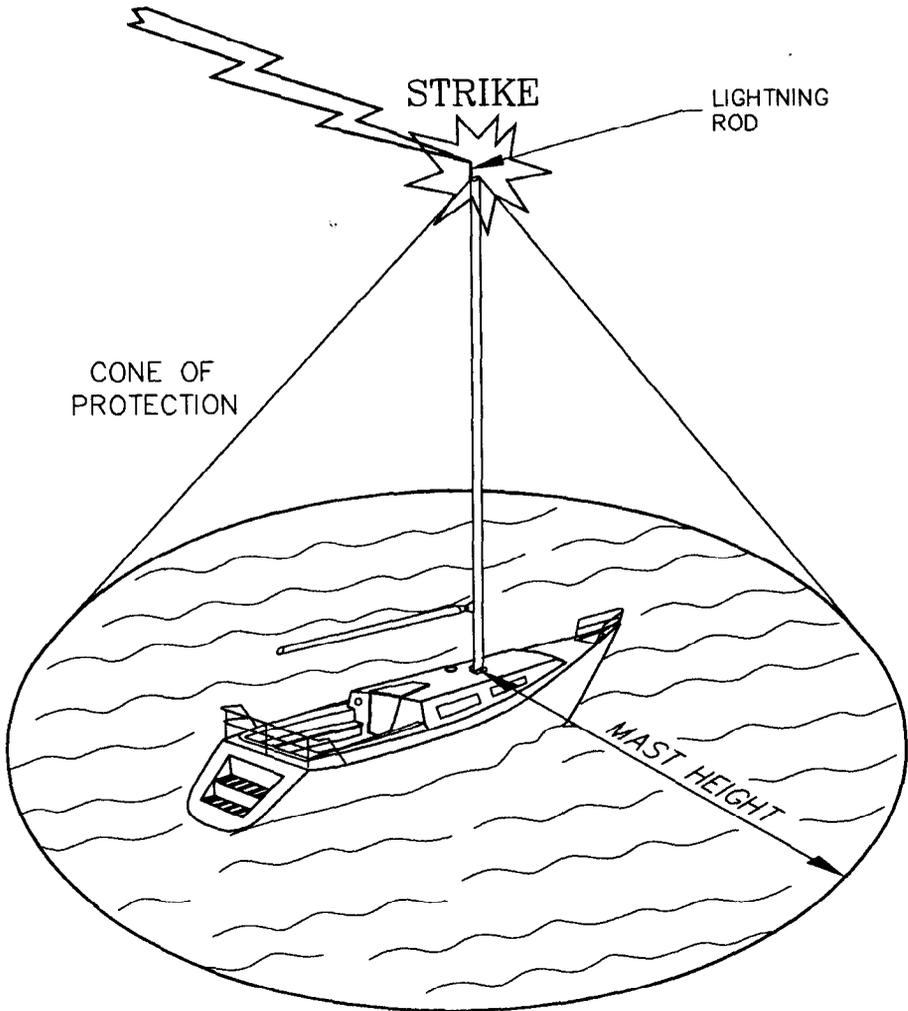

Figure 7-3. Cone of Protection.
- b. Cone of Protection.** The tip of the mast, or more correctly a turned spike clear of all masthead equipment, gives a cone of protection below it. The cone base is the same as the mast height. This protective cone prevents strikes to adjacent areas and metalwork which in a yacht can mean stays, rails or other items lower than the mast head. Figure 7-3 illustrates the protective cone.